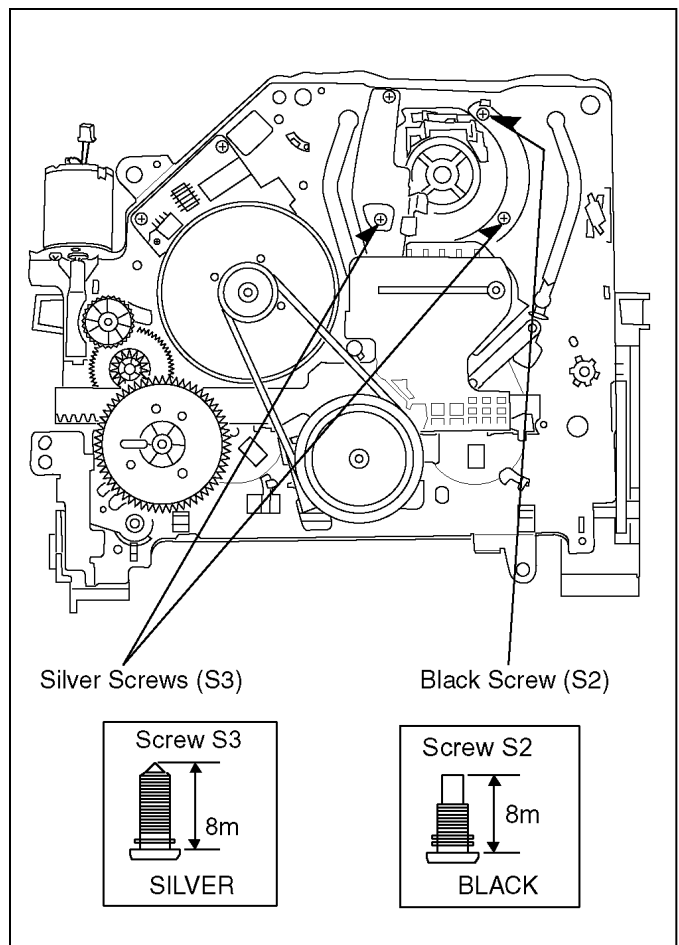

Fig. S10
2. Unlock 2 locking tabs on a side to release the Cylinder Flexible Card as shown in Fig. S10.
3. Remove a black Screw (S2) and 2 silver Screws (S3) to remove the Cylinder Unit shown in Fig. S10.